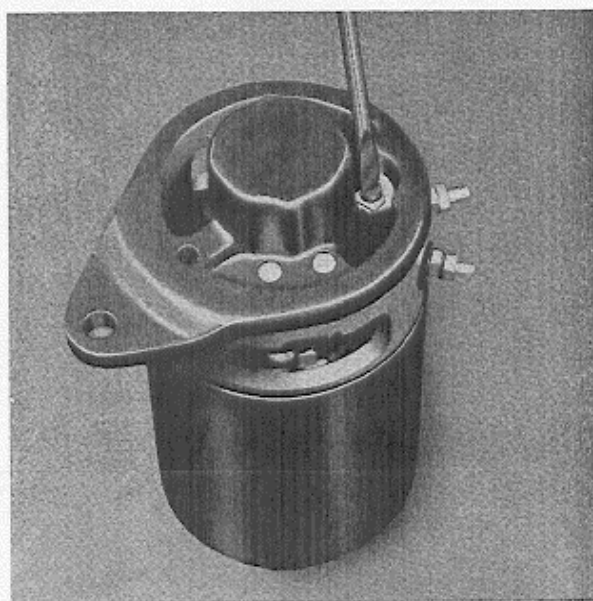

Fig. 39. Removing the connecting bar.
3. Remove the screws which hold the dynamo housing and end heads together after having first disconnected the connecting bar as shown in Fig. 39.
- Connect the bar for the main current to the positive brush, see Fig. 39.